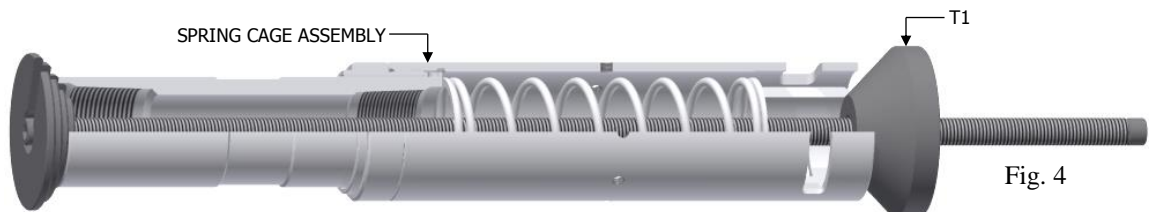

Fig. 4
K-1.1.3) Compress compression spring (4) with assembly tool (T1) (Fig. 4) to align threaded holes in spring cage (5) with recessed holes in top sub (1). Screw shear screws (3 or 6) into spring cage (5). Tighten until shear screws (3 or 6) make contact with top sub (1). Back shear screws (3 or 6) out 1/4 turn.